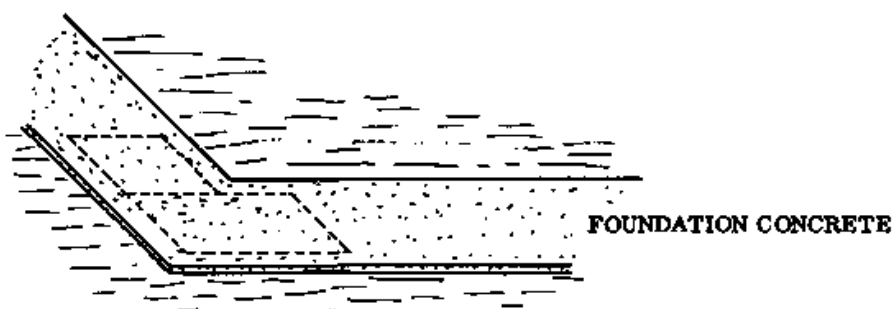

Fig. 3 SETTING OUT THE FOOTINGS (ENLARGED DETAIL)
- After the foundation concrete is cast and set hard, set out the footings directly on the surface of the foundation (Fig. 3) and build them to the required height.